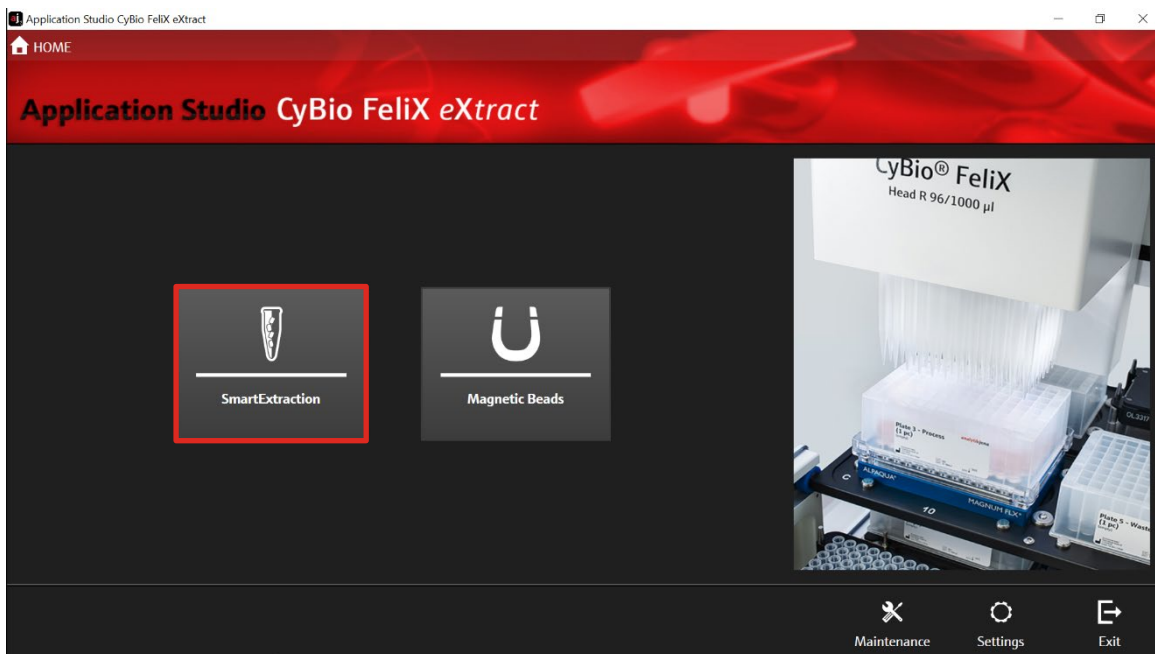

Figure 4: HomeScreen of the AppStudio FeliX *eExtract*. Selection of extraction technology: “SmartExtraction”.
14. Choose “SmartExtraction” (→ see Figure 4).